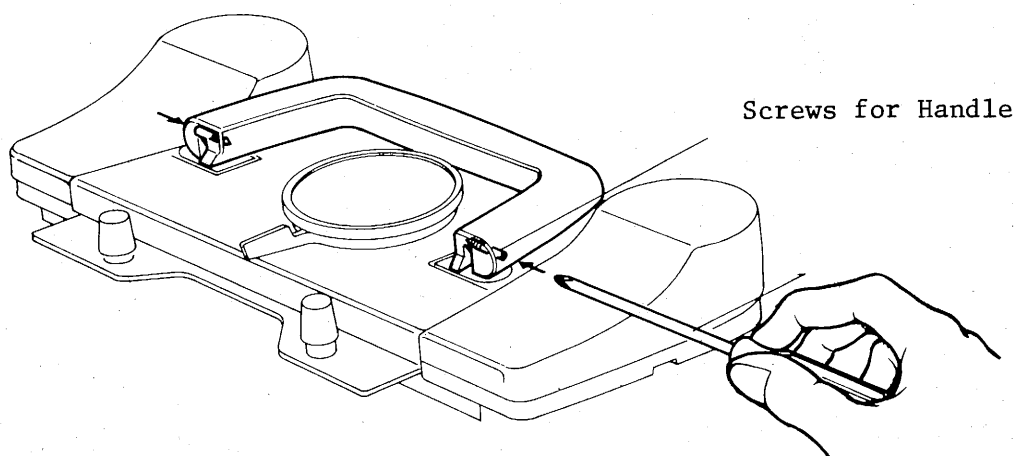

Fig. 48
- (6) With Carriage Handle brought down as illustrated in Fig. 48, secure Carriage Handle by tightening two screws for Handle.